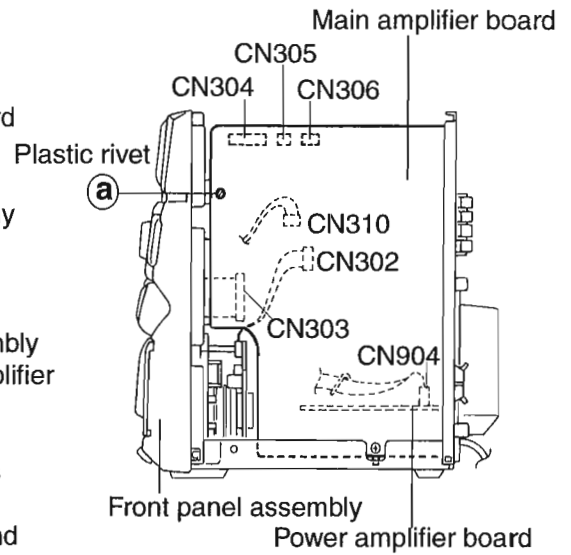

Fig. 3-4
3. Remove the plastic rivet (a) fastening the main amplifier board and front panel assembly to the left side of the main unit. (See Fig. 3-4)
6. Disconnect the card wires connected to the front panel assembly from connectors CN302, CN303 and CN310 on the main amplifier board.(See Fig. 3-4)
7. Remove the wire clamp holding the parallel wires protruding from fastening the front panel assembly and the parallel wires protruding from the power supply board. (See Fig. 3-4, 8)
8. Disconnect connector CN904 on the power amplifier board and then disconnect the parallel wires protruding from the front panel assembly .(See Fig. 3-4, 8)